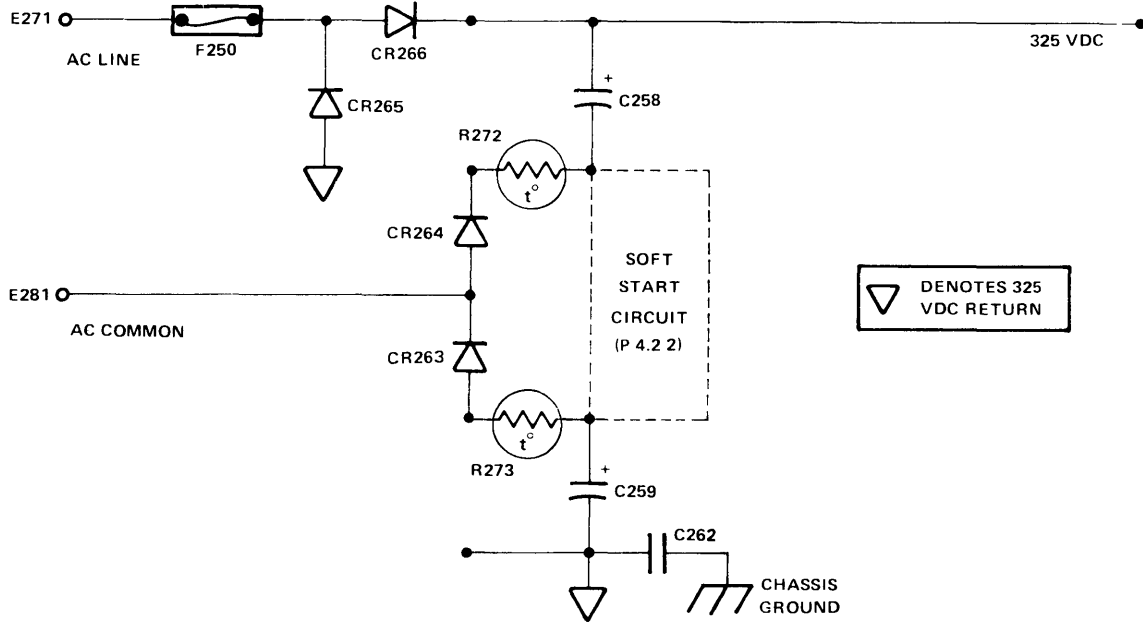
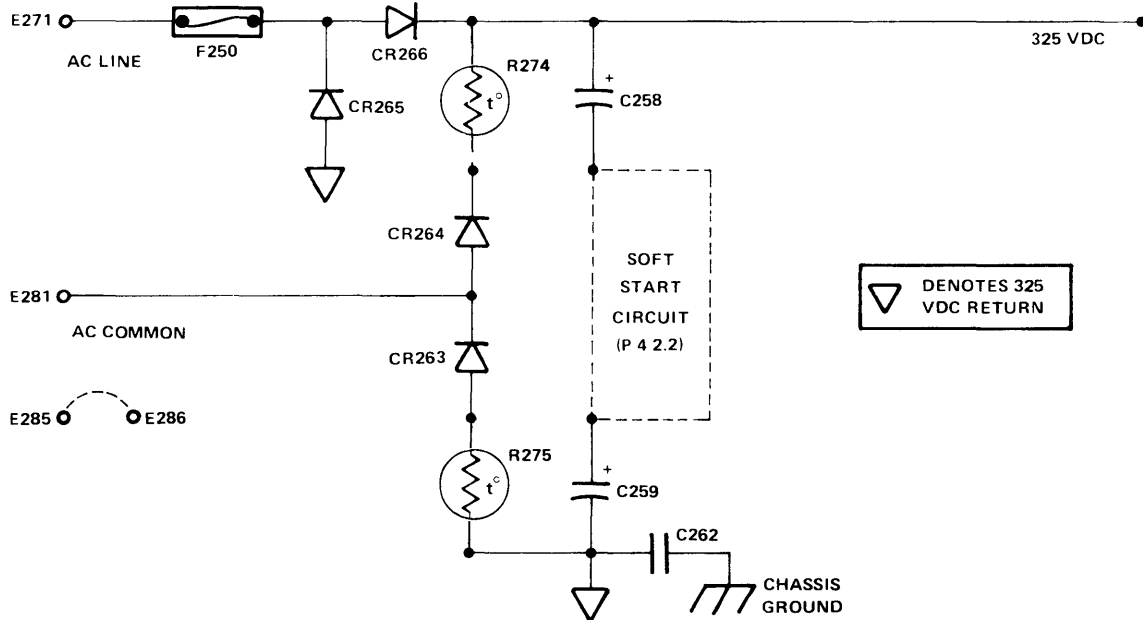

Figure 4.3a. Input Voltage Selection and Rectification
Figure 4.3b. Input Voltage Selection and Rectification
4.2.1 INPUT VOLTAGE SELECTION AND RECTIFICATION. Power is supplied through the line filter and power-on switch (drawing 999835) to E271 and E281 (drawing 999945, sheet 13). If the terminal is configured for 115 VAC operation, thermistors R272 and R273 are installed to form a voltage doubler as shown in Figure 4-3a. For 230 VAC operation, thermistors R274 and R275 are installed to form a full wave bridge as shown in Figure 4-3b. The jumper between E285 and E286 acts as a switch to indicate the input voltage configuration to automatic test equipment. Capacitor C262 is an AC bypass from the 325 V return to chassis ground and capacitors (C258 and C259 provide the primary energy storage for the terminal.